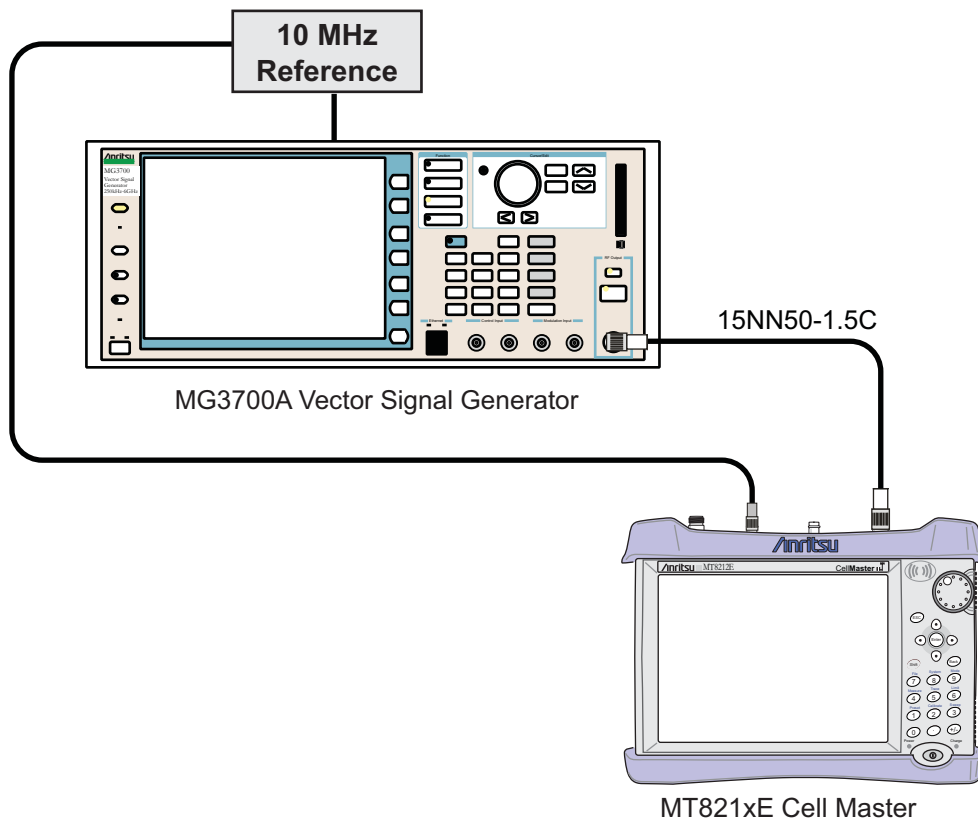

Figure 5-1. ISDB-T Signal Analyzer Test Setup
1. Connect the equipment as shown in Figure 5-1.
7. Set the mode of the MT821xE to ISDB-T Signal Analyzer. Press the Shift key, the **Preset** (1) key and then select the Preset submenu key to reset the unit.